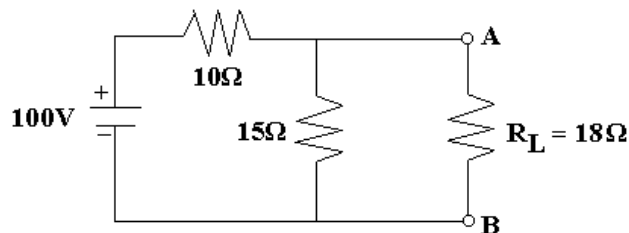

Fig.1
Q.33 For the circuit shown in Fig.1, find the current in the load resistance $R_L=18\Omega$ and the voltage across it by Norton's theorem and verify the result by applying Thevenin's Theorem. (8)